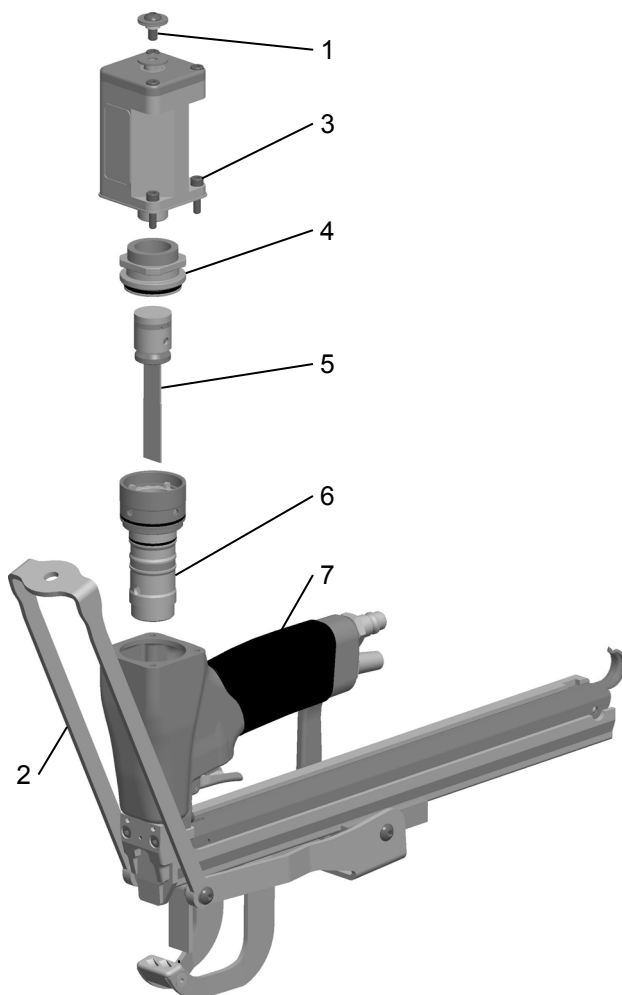

Fig. 7
- Disassemble the screw (Fig. 7/1) holding the power arm (7/2) and turn it underneath the magazine.